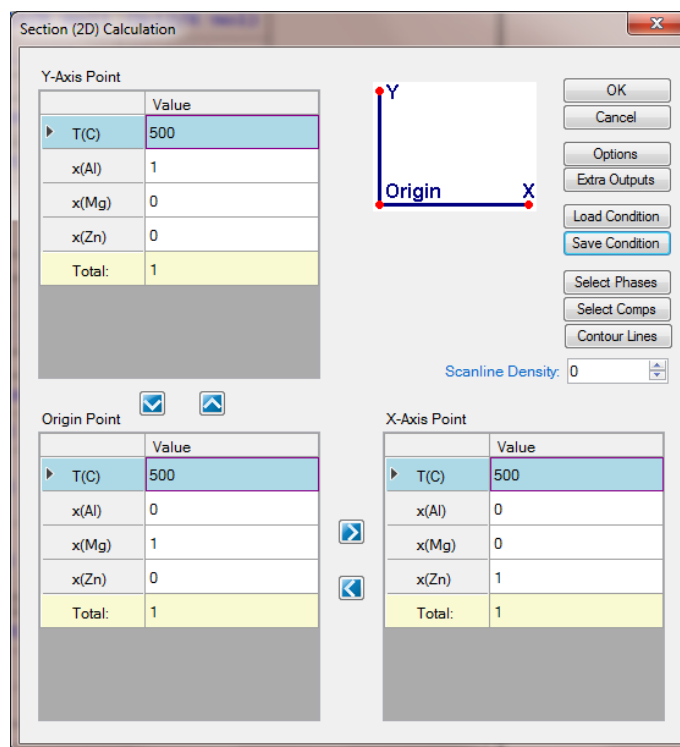

Figure 1.5.1: 2D calculation of an isotherm of Al-Mg-Zn at 500°C
- Set Calculation Condition as shown in Figure 1.5.1;